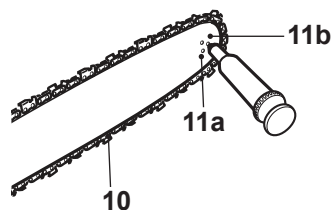

Fig. 45
2. Using a disposable lube gun, insert the needle nose into the lubrication hole (11a) and inject grease until it appears at the outside edge of the sprocket wheel (11b) (Fig. 45).
3. Make sure that the chain brake is disengaged. Rotate the saw chain (10) by glove hand. Repeat the lubrication procedure until the entire sprocket wheel (11b) has been greased.